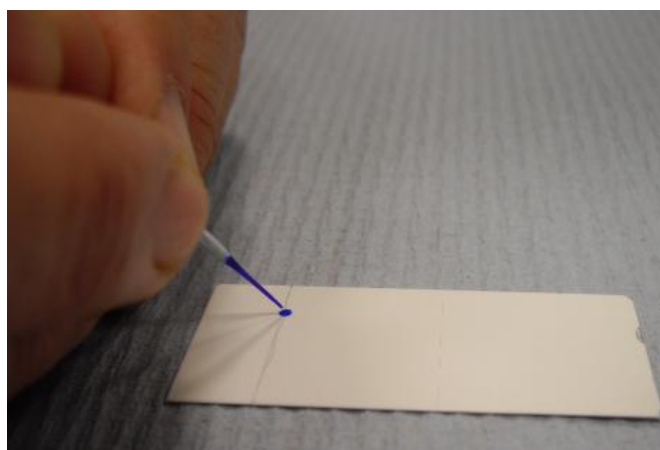

Figure 2. Spotting the dye onto the plate.
3. The next step is to **CAREFULLY** spot the dye onto the TLC plate **WITHOUT** damaging the plate. Hold the tip of the capillary as close as possible to the pencil line (Fig. 2) until a **SMALL** amount of the dye extract is drawn out onto the plate. With practise you should be able to do this without actually touching the plate.